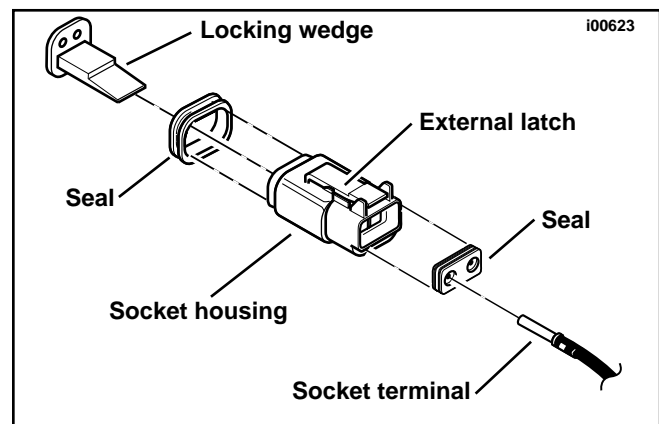
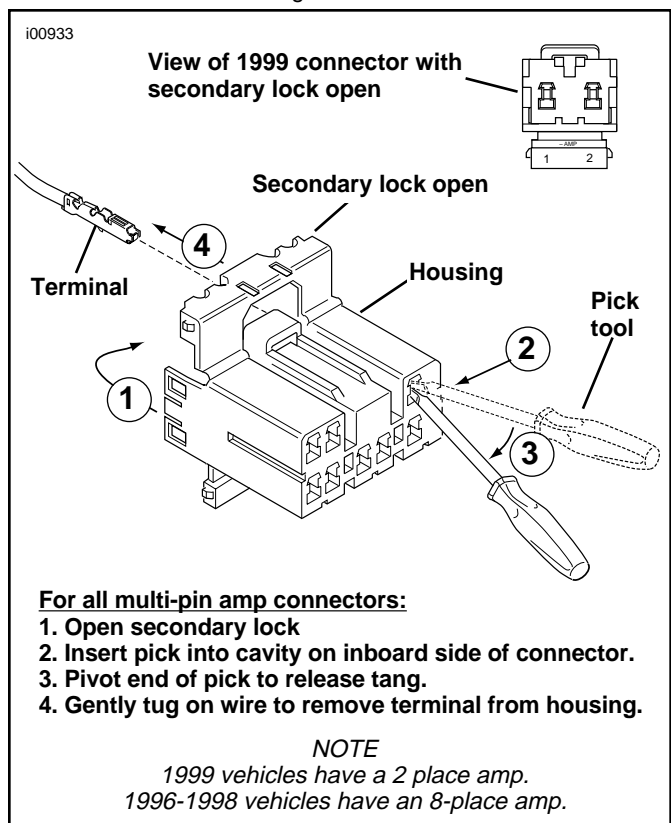

Figure 1. Rear Turn Signal Electrical Connector
Figure 3. Amp Multilock Electrical Connectors
On 1999 and later vehicles, the multilock amp connector is under the lens plate of the taillight. 1996-1998 vehicles have an 8-place multilock amp connector as shown in Figure 3. 1994-1995 vehicles have a Deutsch connector (13) as shown in Figure 1.
2. **1994-1995 vehicles:** See Figure 1. Follow the rear turn signal wires to the two connectors located under the seat. Separate the socket halves of the rear turn signal connectors by pressing the external latch of each connector and rocking the socket half back and forth until free. Leave the pin halves of the connectors attached to the frame. Remove each connector's orange secondary locking wedge by inserting the blade of a small screwdriver in the locking wedge groove. Turn the screwdriver 90 degrees to pop the wedge up.
3. See Figure 3. **On 1999 and later models**, it is necessary to remove the taillight lens to access the amp multilock connector. **On 1996-1998 vehicles** with multilock amp connectors, remove the connector from the retaining device according to Service Manual instructions: